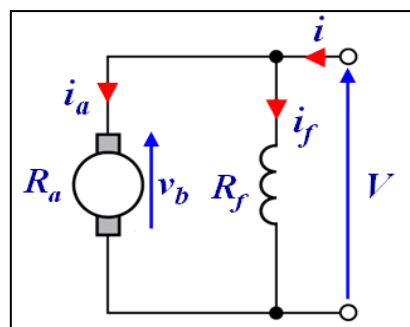

Figure Q2[d]
- [d] **A permanent magnet DC motor shown in Figure Q2[d] has an armature resistance of 1.0Ω and field resistance of 0.5Ω . When a voltage of 240 V is applied to the motor, it reaches a steady-state speed of rotation of 30 rev/s and draws an armature current of 50 A and field current of 20 A .**